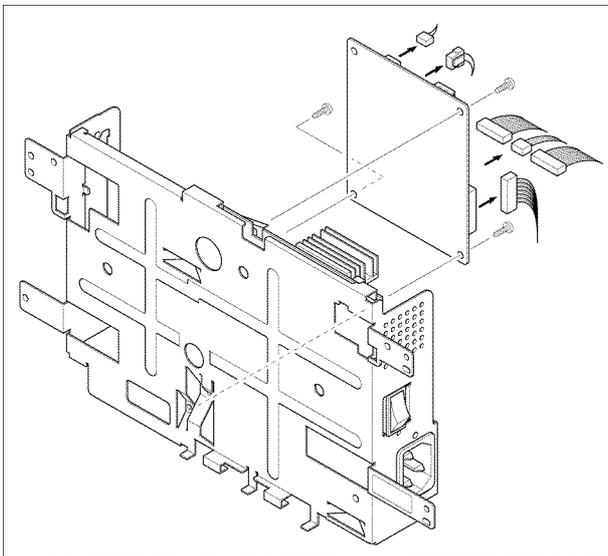

Figure 1
2. Disconnect all Main PBA connectors. Remove 6 screws, then the Main PBA, Figure 1.